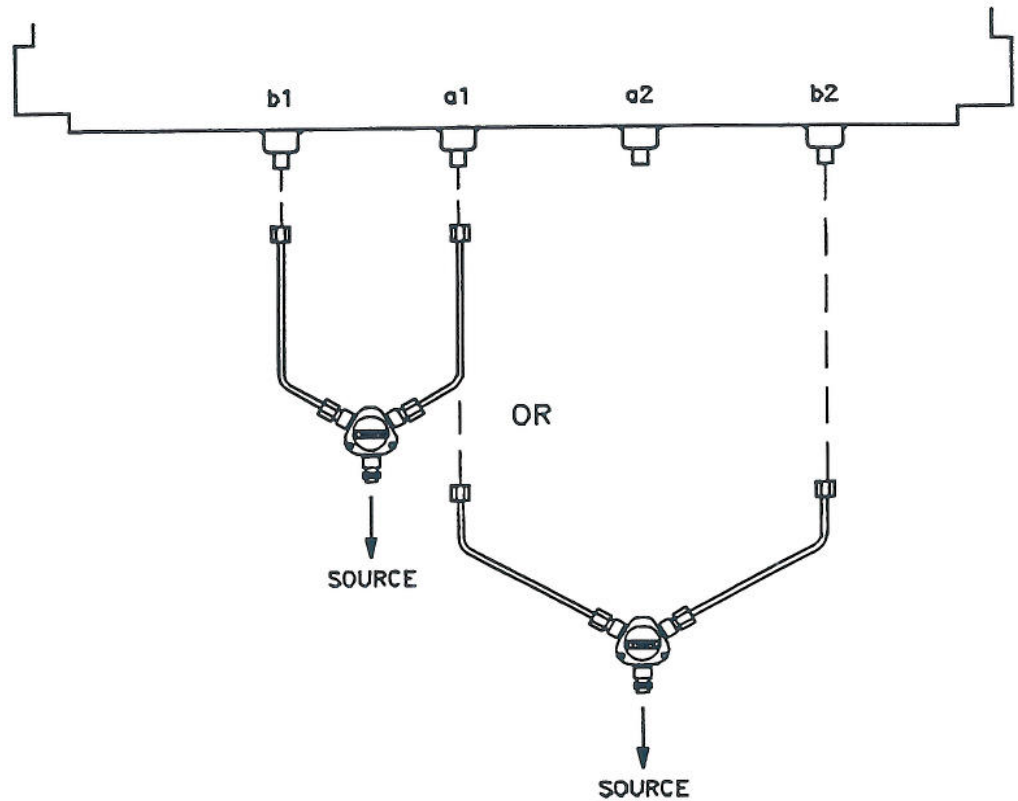

Figure 3-3 Hardware Configuration for Operator's Check
- Loosely connect the RF source cable to the power splitter as shown in Figure 3-3 below. Connect the other end of the RF source cable to the output of the source. Rotate the semi-rigid cables to the required position for connection to ports a1 and b1. Tighten all connections.